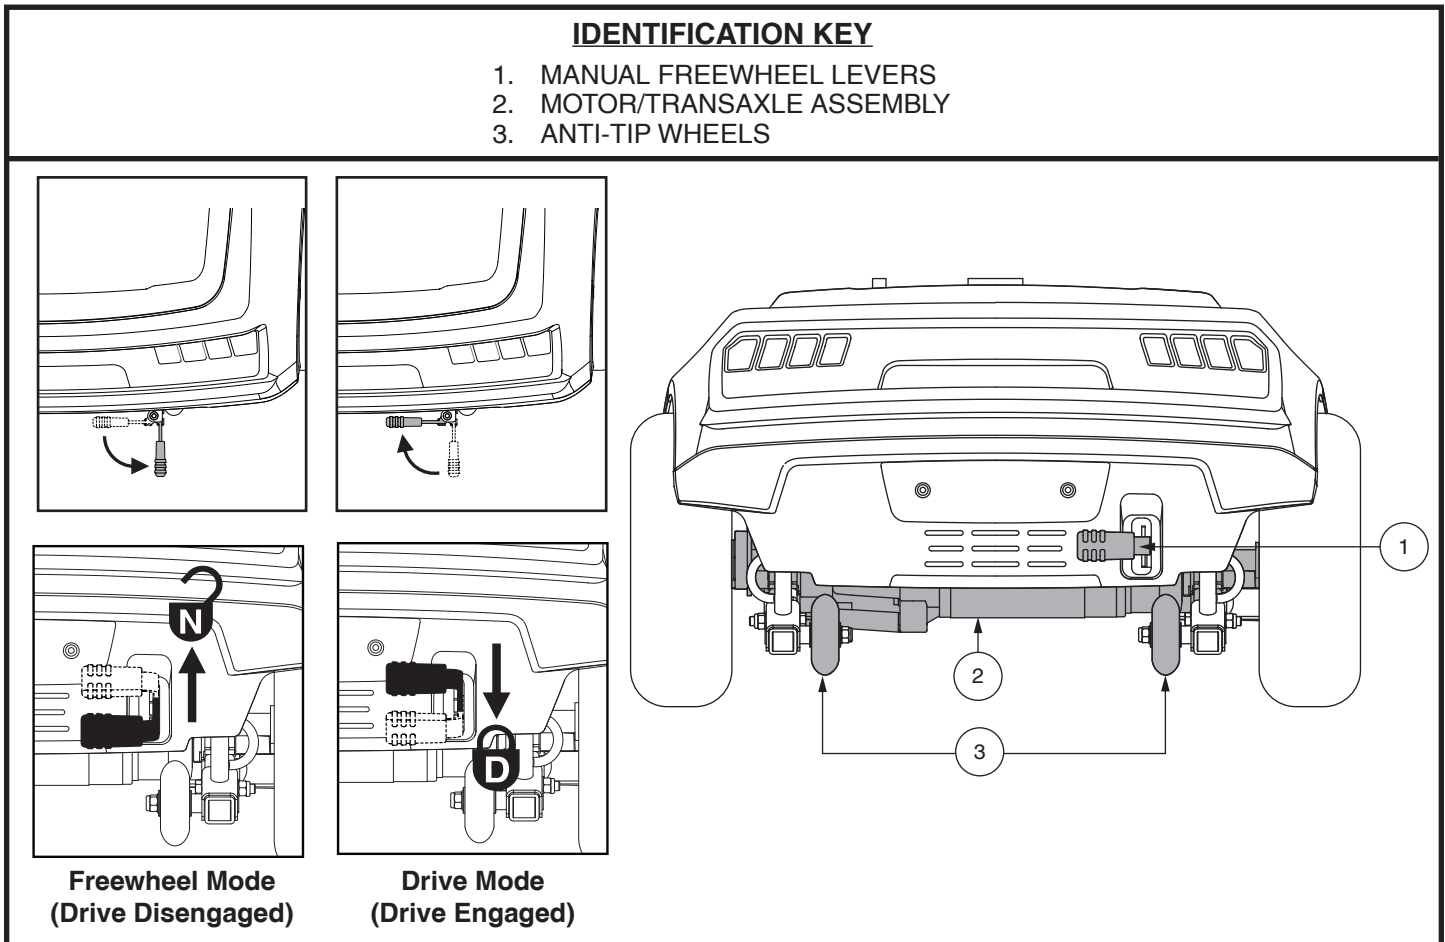

Figure 2. Rear Components
2. Flip and extend the freewheel lever away from the scooter. See figure 2.